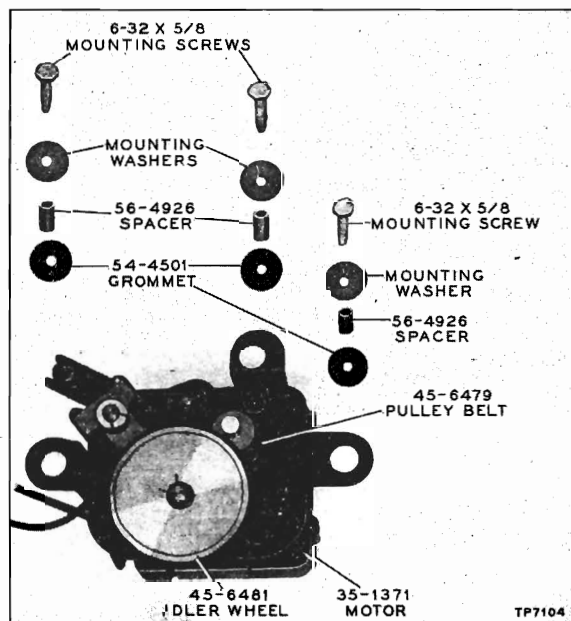

Figure 23. Motor Assembly
- Disconnect second motor lead by unsoldering it at splice from switch lead. The motor assembly is shown in figure 23.
- Remove the three screws, washers, and bushings from motor frame (figure 23), and lift out motor.